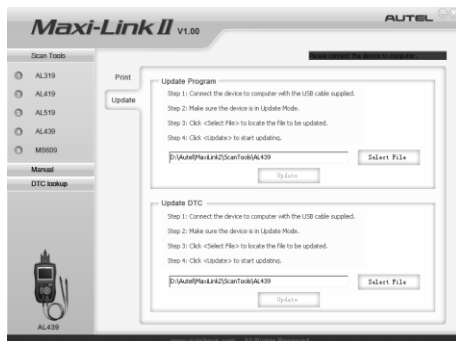

Figure 3.12
- 2) Run the MaxiLink II Tool Kit in your computer. (Figure 3.12)
- 5) Select the programs to be updated in your computer. There are two types of programs: operating system and DTC library (Figure 3.12).